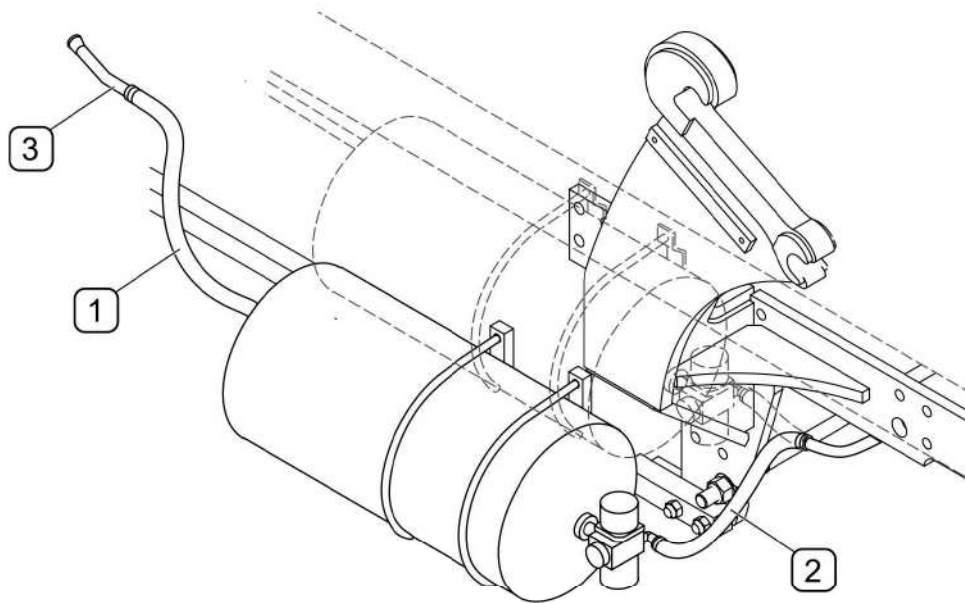

FIG. 4.19A Modification of pneumatic system in 82A/SA/TSA TRACTORS
(1)- line catalogue number 13RPN-35.00.00.03; (2)- line catalogue number 13RPN-35.00.00.03; (3)- line catalogue number 13RPN-35.00.00.03
In 82A/82SA/82TSA tractors the pneumatic system air tank is placed on the right of the tractor half frame together with bracket mount on right brace rod of support structure. Tank conduits shall be changed for: line (1) catalogue number 13RPN-35.00.00.01, line (2) catalogue number 13RPN-35.00.00.03 and metal line (3) catalogue number 13RPN-35.00.00.03 (FIG. 4.19A). After mounting tank and conduits check airtightness of pneumatic system.